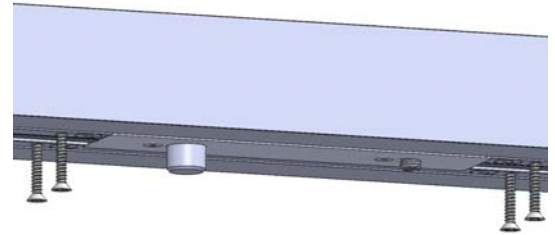

Figure 6:
4. Secure Top pivot to header with #10 screw min. 4" long (not by Fleetwood). See Figure 6 for illustration.